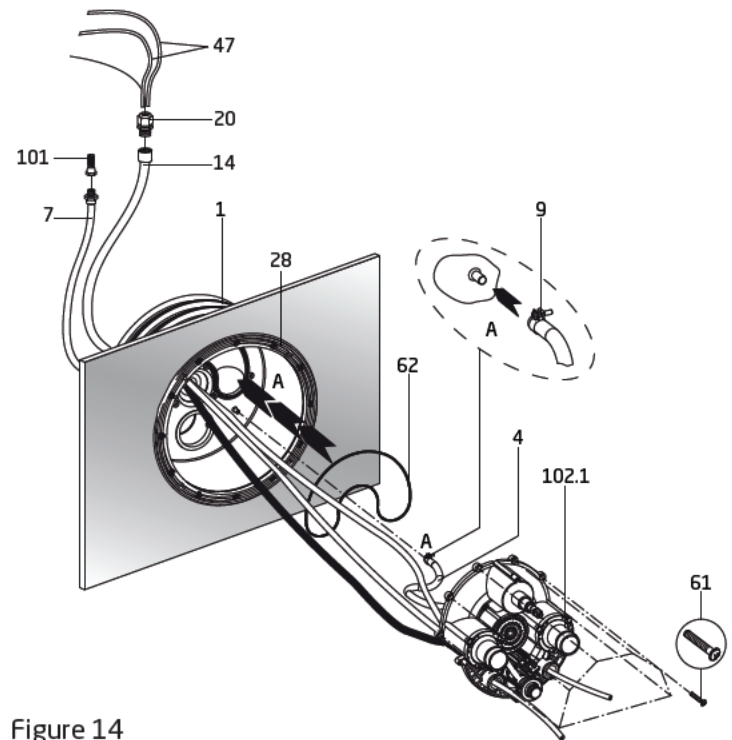

Figure 14
1. Insert the o-ring (part# 62) in the jet housing as shown in Figure 14.
2. Start the ten (10) nozzle housing tapping screws (part# 61) into the pre-assembled nozzle housing (part# 102.1). Place the nozzle housing at the main jet housing.
4. Slide one (1) o-ring (part# 37) onto each touch button. Insert the two (2) touch buttons into the nozzle housing and lock them by turning them clockwise until they 'click' into place.
5. Feed cables for both touch buttons and LED light through the protective conduit as shown in Figure 14. Allow enough cable to reach the control box. Excess can be trimmed upon installation. Mark the end of each button cable with a marker. (P = Pump & L = Light.)